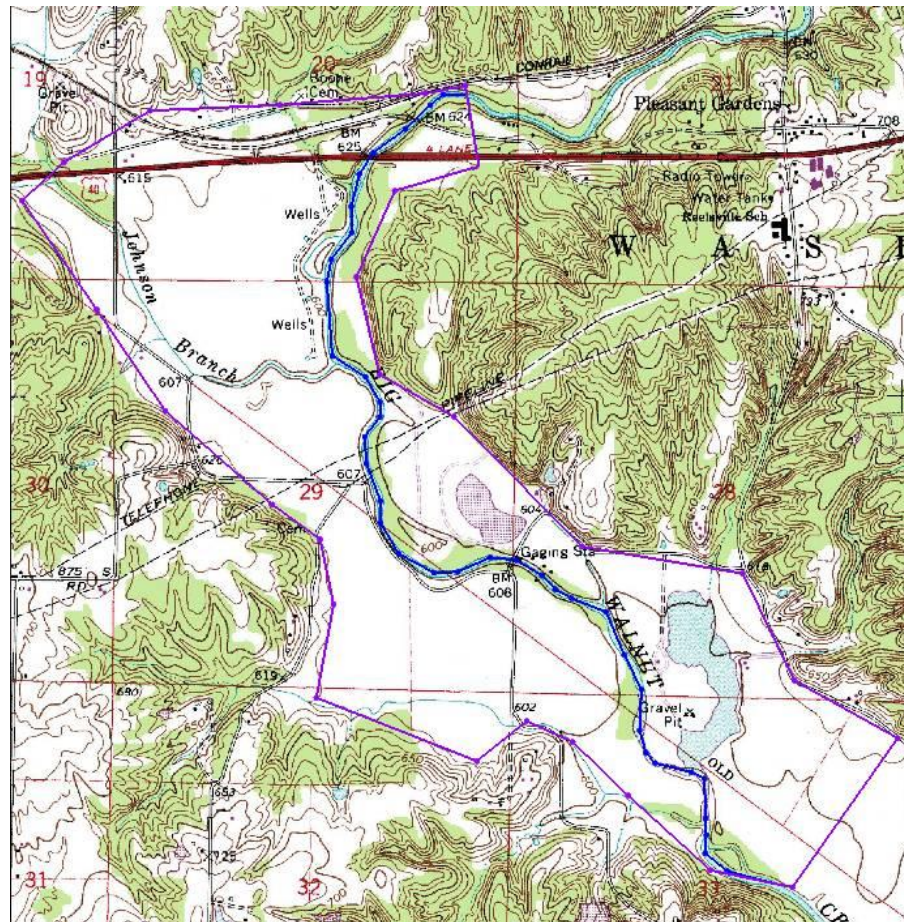

Figure 5 Modeling the river
6. Select the **Create Arc**  tool and click out the river arc starting near the northern specified head boundary and ending near the southern specified head boundary, as shown in Figure 5 below. Don’t extend the river beyond the boundary coverage.